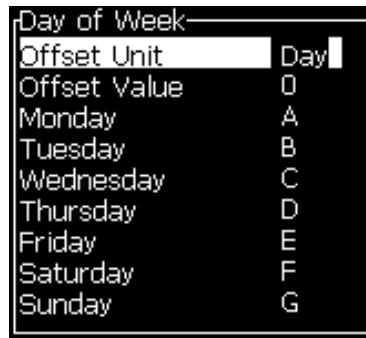

Figure 5-44: Encoded Day of Week
- 3 Select *Setup Encoded Day of Week* and press *Enter* to open the *Day of Week* dialog box (see Figure 5-44).